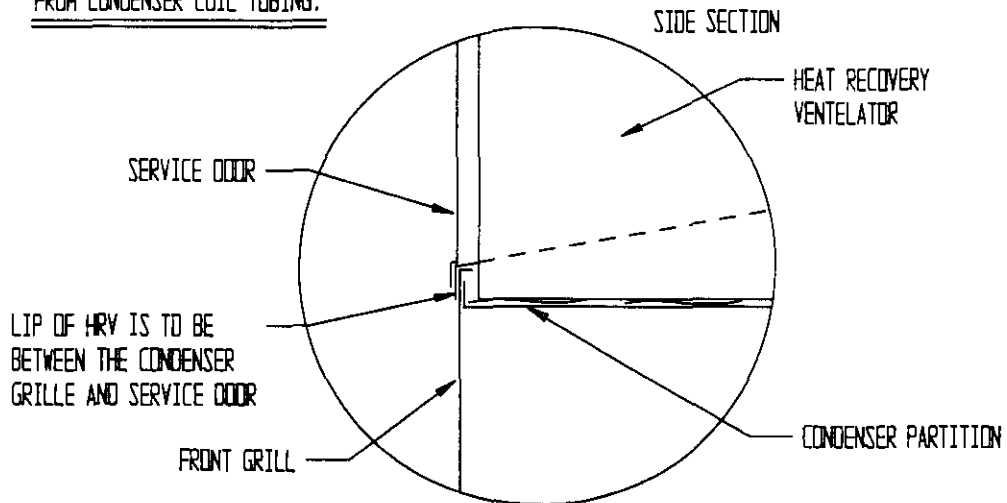

FIGURE 6
9. Connect leads with fork terminal to corresponding points on terminal strip to terminals C and G. (See Figure 6, page 10 and wiring diagram.)
10. Remove female plug section of high voltage wiring harness and snap into unit control panel. Wire to terminal block. See Figure 6 and wiring diagram.